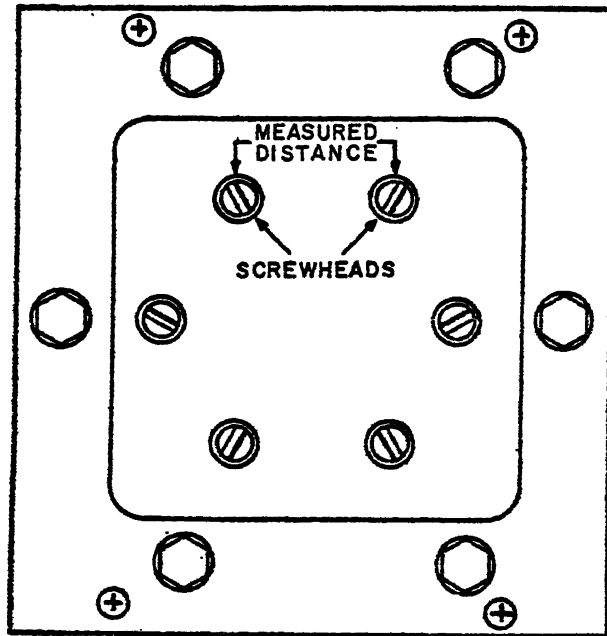

FIGURE 13
- b. Measure the distance from CENTER of first screwhead to the CENTER of the second with a steel rule. See figure 13.